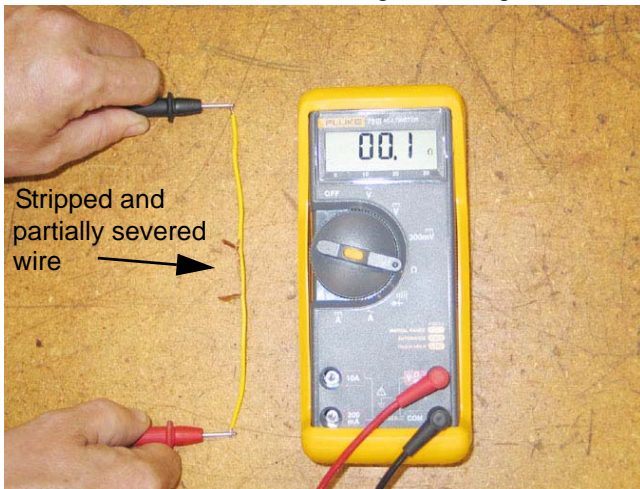

Figure 39.18
39.18. For comparison, strip away insulation at the middle of the wire, and snip strands until only a few remain. Repeat the Ohm reading. There will not be a substantial change. See Figure 39.18.